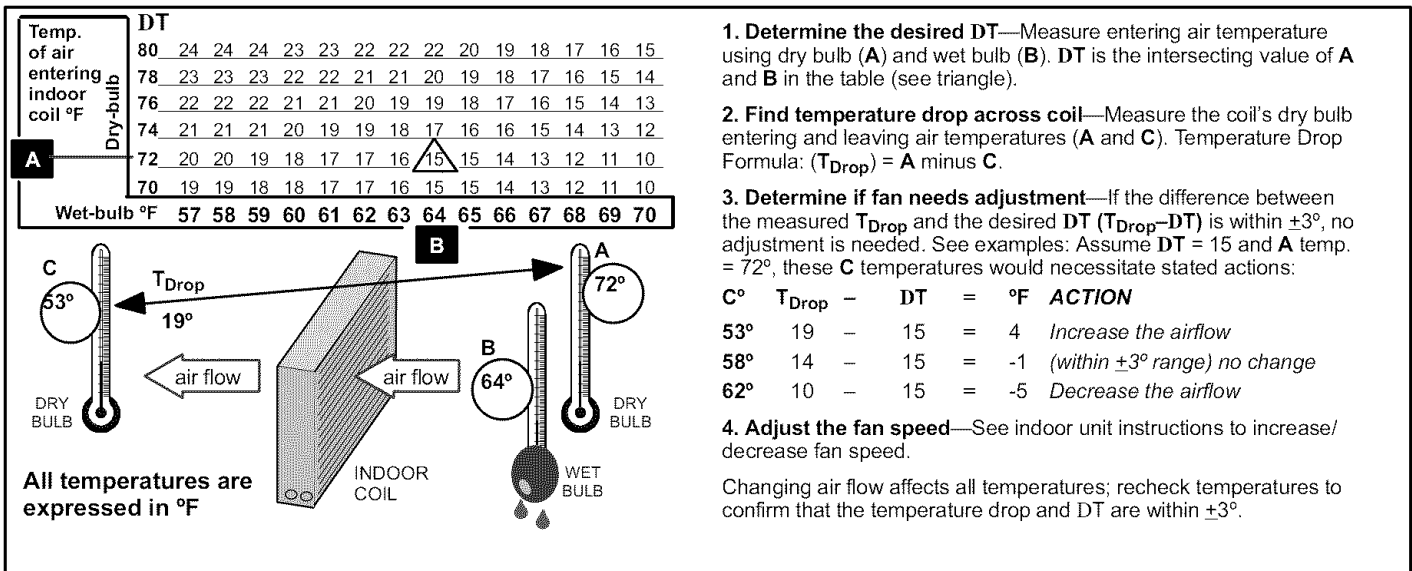

Figure 32. Checking Indoor Coil Airflow Guide
Check airflow using the Delta-T (DT) process using the illustration in figure 32.